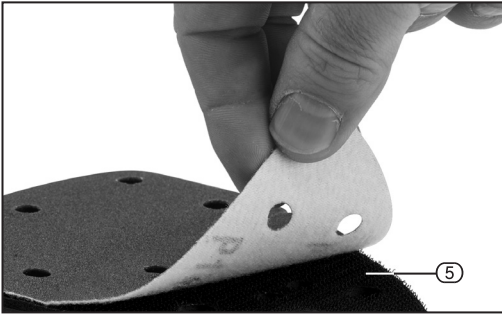

FIG. 2
6.2 ABRASIVE SHEET INSTALLATION/REPLACEMENT – FIG. 2